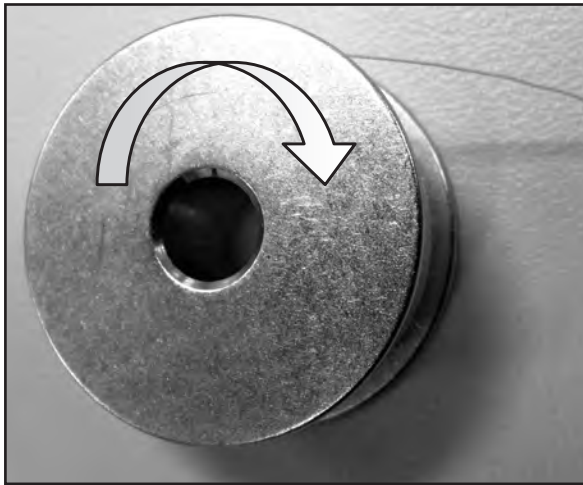

Figure 13
1. Place the bobbin in the bobbin case so that the thread pulls off clockwise when viewing the open side of case (Figure 13).